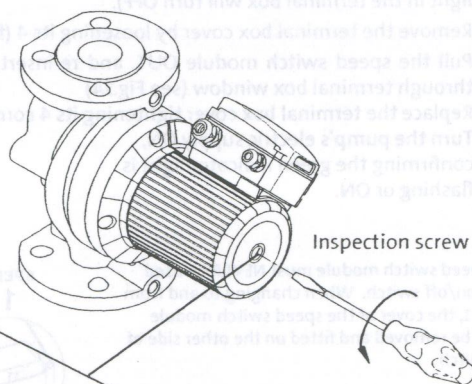

Fig.12
- Insert a small, flat-headed screwdriver into the slot at the end of the motor shaft, turning the shaft until it can rotate freely (see Fig.12).